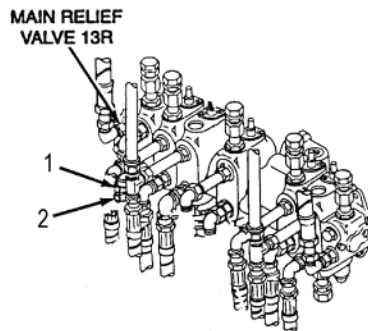

Figure 13. Main Relief Valve 13R
- Loosen jam nut (Figure 13, item 1) on main relief valve 13R.
- Rotate adjusting screw (Figure 13, item 2) clockwise to increase pressure and counterclockwise to decrease pressure as necessary to obtain desired pressure. Tighten jam nut (Figure 13, item 1).